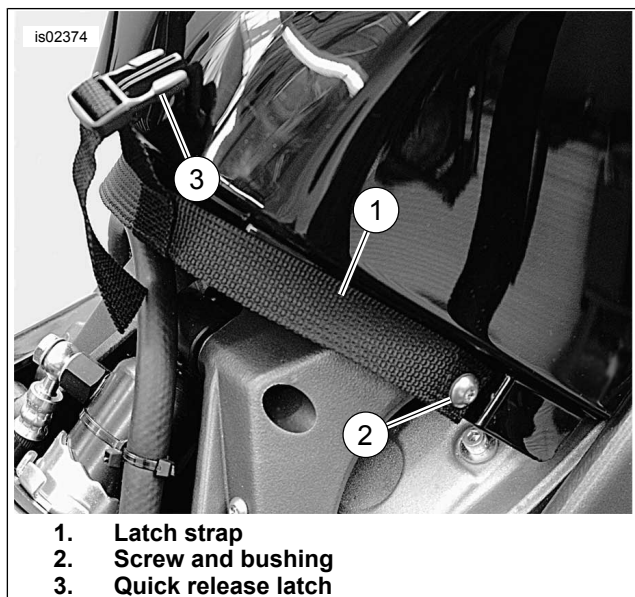

Figure 3. Rear Cover Bag Strap
- See Figure 3. With quick release buckle facing forward, fit latch strap around cover flange from one mounting hole to the other.